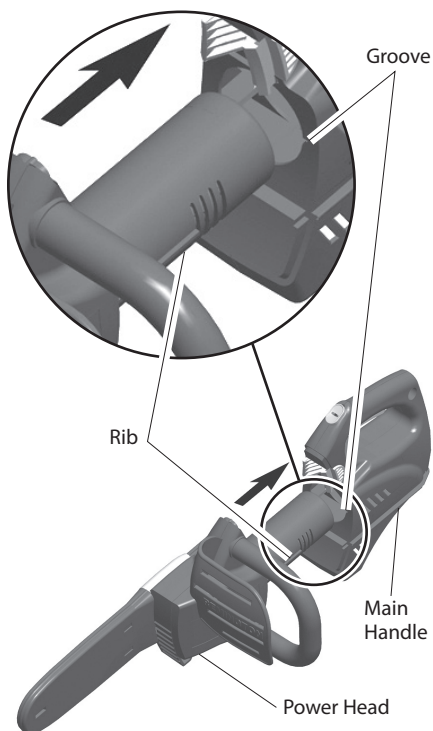

Figure 5 - Align Power Head with Handle
1. Align rib on chain saw power head with groove in main handle (see Figure 5).